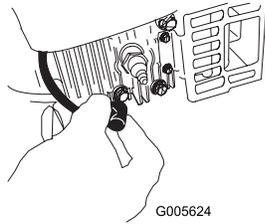

Figure 24
2. Disconnect the spark plug wire from the spark plug and hook it onto the retaining post (Figure 24) before performing any maintenance procedure.